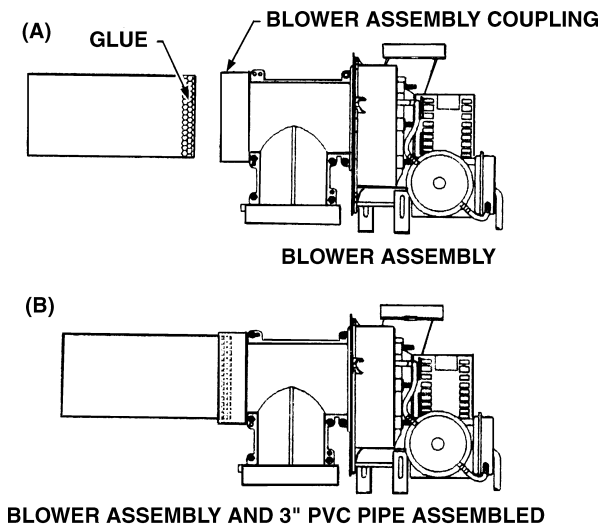

FIGURE 9
3. Remove two (2) screws installed in top cover at mounting locations. Place screws aside for later use in securing blower assembly to top cover.
5. Take the 3 inch PVC pipe which is 7 inches in length and put glue on one end. Take the end which is covered with glue and insert it into the blower assembly's coupling twisting slowly to make sure the glue is spread evenly. (Fig. 9)